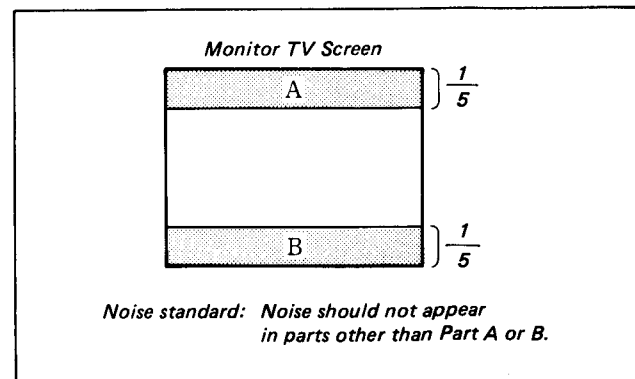

Fig. 2-9 PLAYBACK PAUSE Delay Time Adjustment
- 2) Check that noise is not shown on the TV screen in the PLAYBACK PAUSE mode. (See Fig. 2-9.)